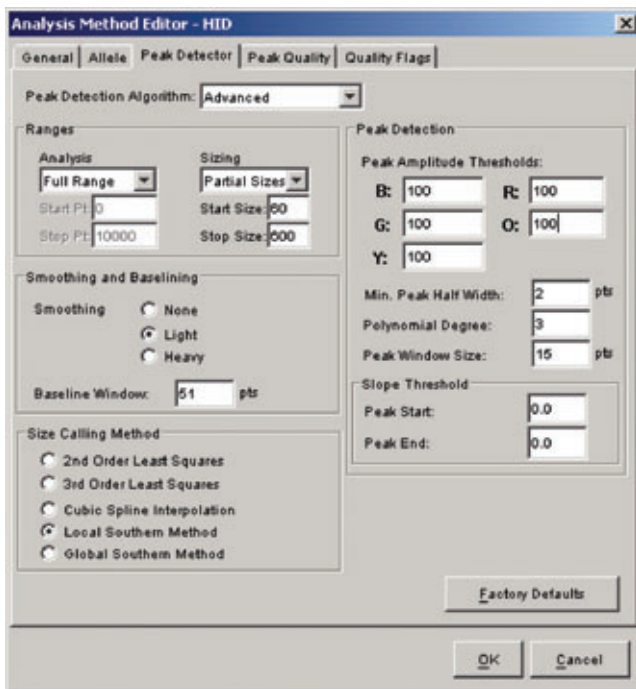

Figure 4. The Peak Detector tab.
10. Select the Peak Detector tab. We recommend the settings shown in Figure 4.